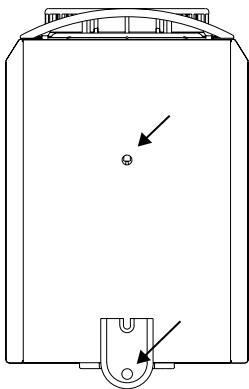

FIGURE 2A
- 6) The front bolt goes through the front hole on the top plate, inserted from the bottom. Insert the bolt into the speaker, the insert is situated in the middle of the speakers' base. The second bolt inserts into the semi-circular rear foot on the back of the speaker. **See Figure 2A.**